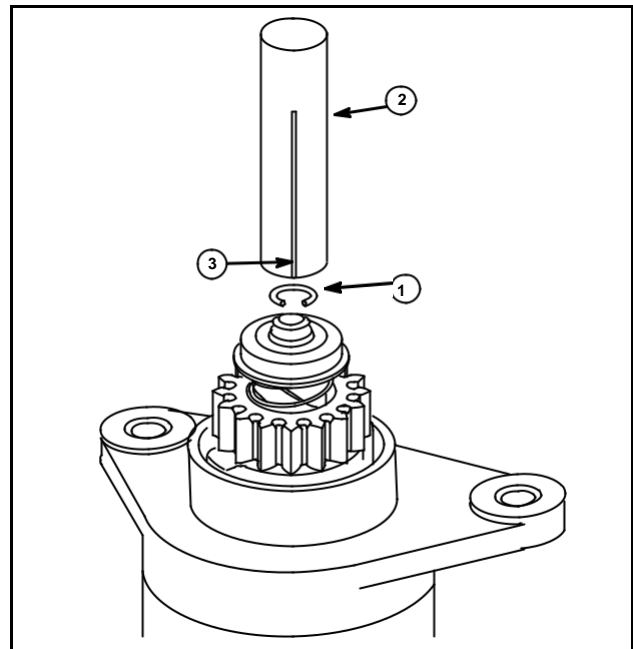

Fig. 62
4. Install NEW C-ring retainer into groove using Tool #19435, C-Ring Retainer Installer (2), Fig. 62. Place C-ring retainer over chamfered end of shaft. Align one of the slots (3) of C-ring retainer installer with open end of C-ring. Press or drive C-ring on until it snaps into groove in shaft.